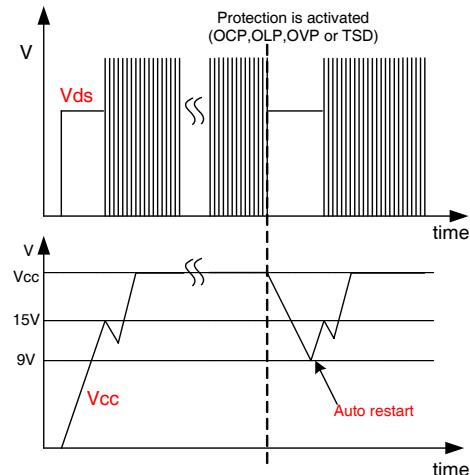

Figure 24. Auto restart operation after protection
**3. Protection function:** FS8S0765RCB has four self-protective functions such as abnormal over current protection (AOCP), overload protection (OLP), over-voltage protection (OVP) and thermal shutdown (TSD). Because these protection circuits are fully integrated into the IC without external components, the reliability can be improved without cost increase. In the event of these fault conditions, the FPS enters into auto-restart operation. Once the fault condition occurs, switching operation is terminated and MOSFET remains off, which forces  $V_{cc}$  to be reduced. When  $V_{cc}$  reaches 9V, the protection is reset and the supply current reduces to 80µA. Then,  $V_{cc}$  begins to increase with the current provided through the start-up resistor. When  $V_{cc}$  reaches 15V, the FPS resumes normal operation if the fault condition is removed. In this manner, the auto-restart alternately enables and disables the switching of the power MOSFET until the fault condition is eliminated, as illustrated in Figure 24.